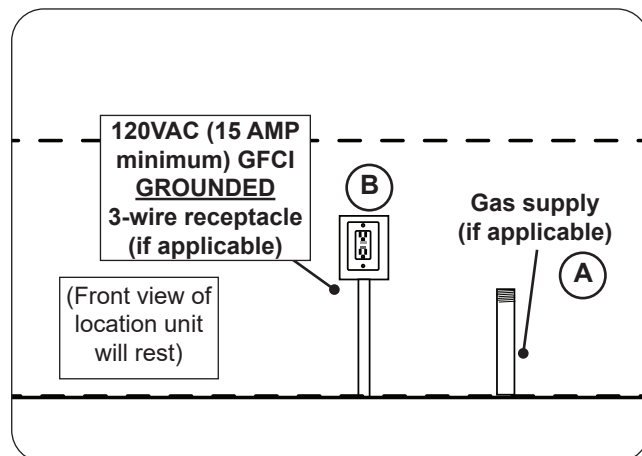

Fig. 23-1 Route gas and electrical (as applicable)
1. Ensure the gas supply is properly routed into the area that the unit will rest over (see Fig. 23-1, A).
1. Wire the receptacle into the area that the unit will rest over (see Fig 23-1, B).